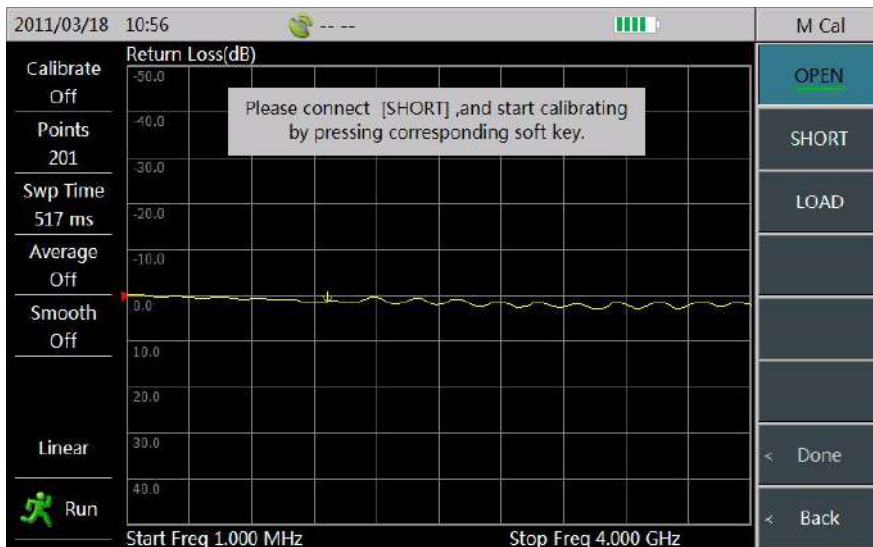

Figure 2-5 Short Circuit Calibration and Measurement
- Following by screen tips, connect the short circuit to the test port and select the [SHORT] menu. At this time, the screen will automatically prompt “[SHORT] Measuring.....”. When the [SHORT] menu becomes into [SHORT], it indicates the completion of the short circuit calibration, and then connect the calibration kit to calibrate other items according to screen tips. Figure 2-5 shows the short circuit is in the process of calibration and measurement.
- Following by screen tips, connect the load to the test port. Then, select the [LOAD] menu, at this time, the screen will automatically prompt “[LOAD]Measuring.....”. When the [LOAD] menu becomes into [LOAD], it indicates completion of the load calibration, as shown in Figure 2-5. At this moment, select the [DONE] menu to finish the mechanical calibration process.